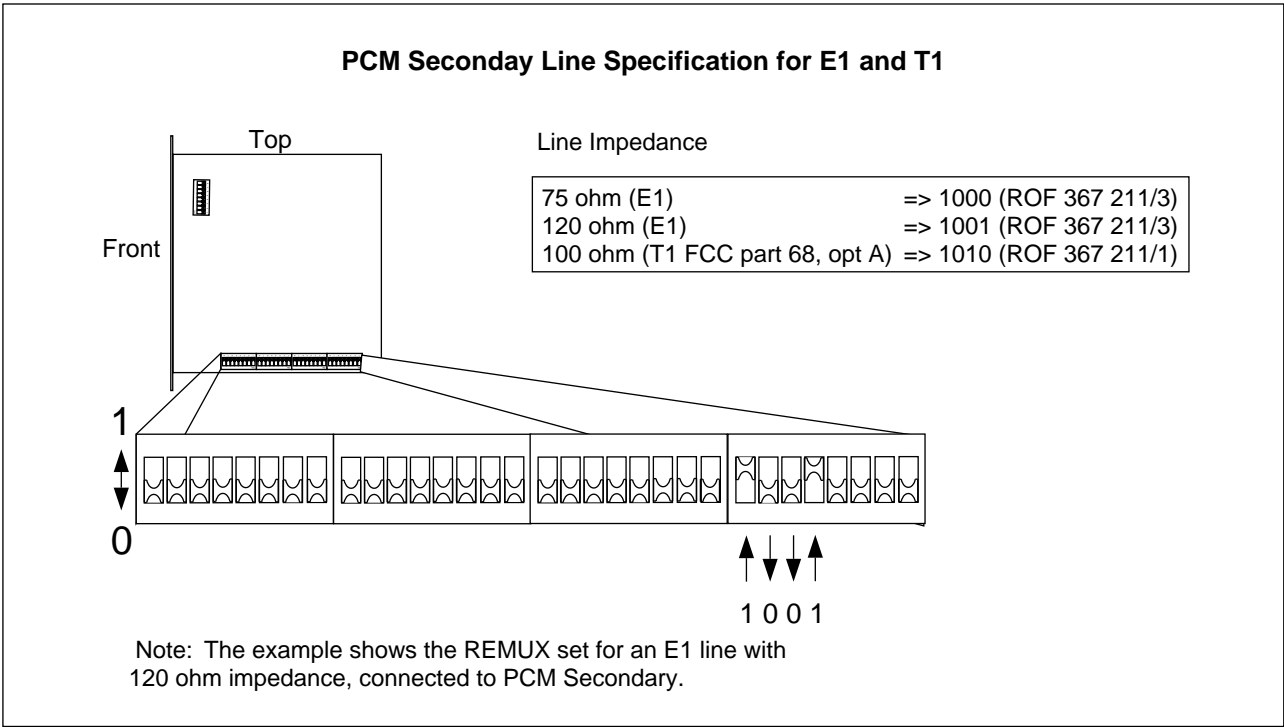

Figure 4-26. Settings for the PCM Secondary Line Specification, E1 and T1
- If impedance is used (for E1 transmission, and T1 FCC Part 68, Option A), see Figure 4-26 on page 4-45.